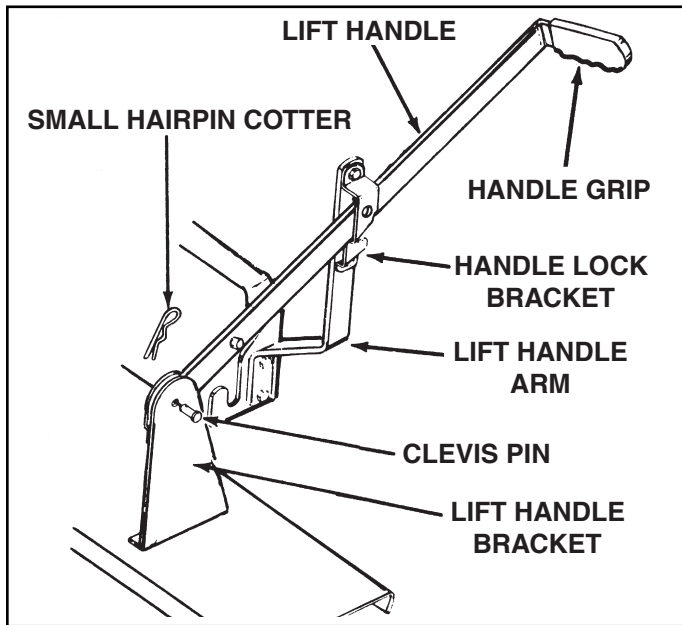

FIGURE 14
19. Install vinyl grip on lift handle as shown in figure 14.
20. Slide lift handle down between lift handle arm and handle lock bracket. See figure 14.
21. Assemble lift handle to lift handle bracket using 3/8" x 3/4" clevis pin and 3/32" (small) hairpin cotter. See figure 14.